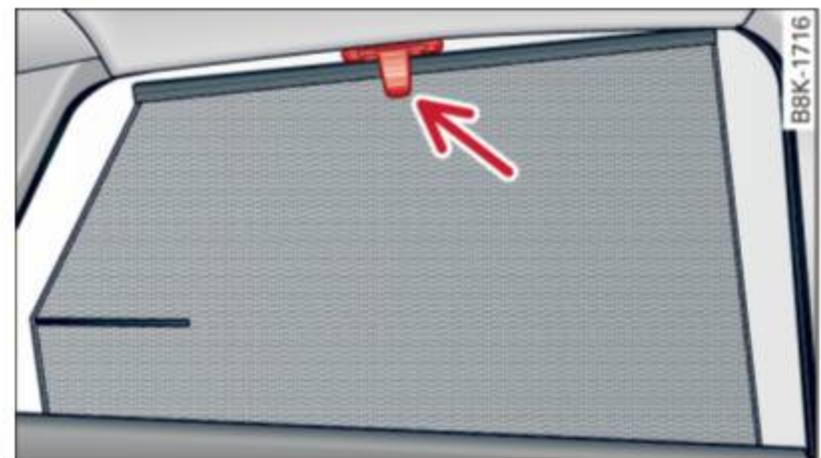

Fig. 49 Raised rear door sun shade
- ▶ Pull the shade out and hang it in the bracket on the upper door frame ⇒ *fig. 49*.